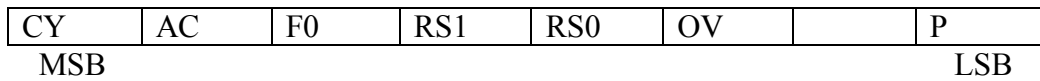

Fig. 2-5-1 PSW bit diagram
The PSW register contains program status information as detailed in Fig. 2-5-1. The PSW register is bit addressable. Therefore PSW.7 in an instruction stands of CY flag (C), and PWS.4 stands of RS1